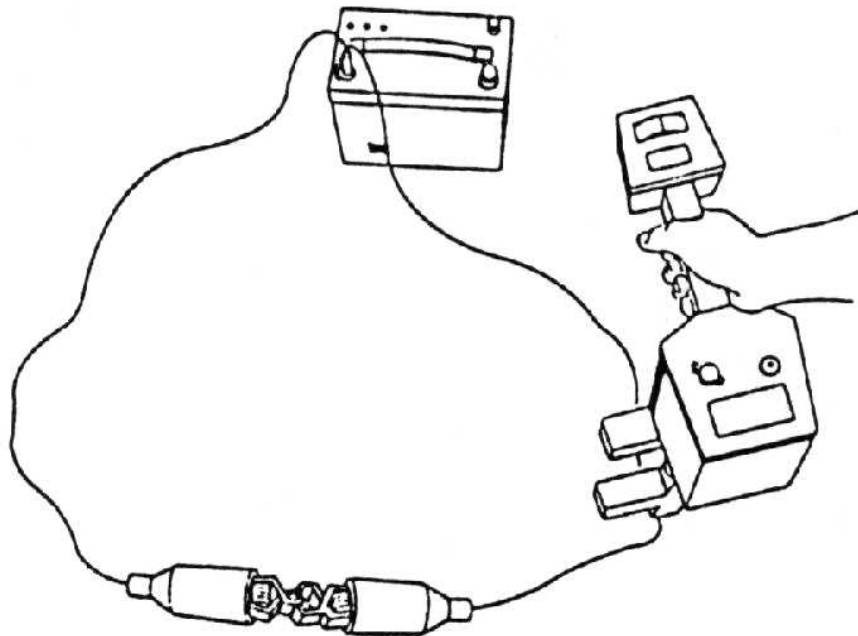

Figure 6, Configuration for Testing the Conductor Attachment
- Connect the black and red ends of the conductor attachment together. Lay the connected wires out on the floor in a circular configuration (Figure 6). Plug the conductor attachment into the direct/4820 clamp jack of the transmitter.